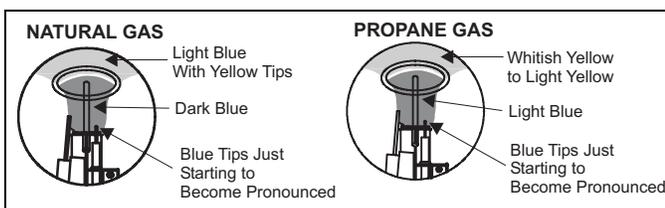

FIGURE 16: Burner Flame Drawing
6. Examine the burner flames to make sure the burners look like they are operating properly. The burner flames for natural gas should appear blue without smoking at the tips. LP is blue with yellow tips and no smoking. The flame should appear cylindrical in shape and should extend from the end of the burner into the heat exchanger chamber. Refer to the pictorial sketch shown in Figure 16 as a comparison to the actual flame.